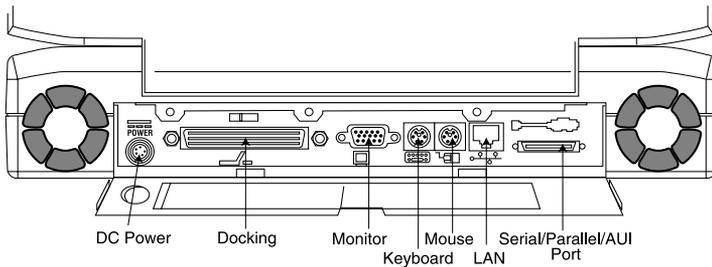

Figure 3-8 PrecisionBook Rear Access port
2. Attach a twisted-pair cable to the PrecisionBook's 10-Base T Ethernet connector (see Figure 3-8).
2. Connect the male end of the I/O break-out cable to the PrecisionBook's 50-pin serial/parallel/AUI connector on the rear panel (see Figure 3-8).